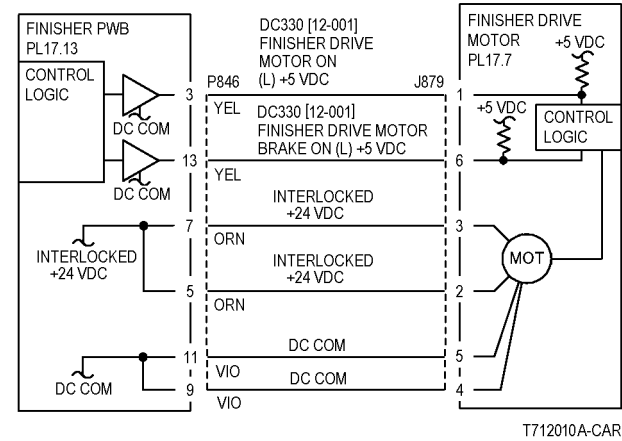

Figure 3 Finisher Drive Motor CD
- Ensure that the connectors shown in the circuit diagrams (Figure 2, Figure 3) are securely connected and that the wires are not damaged.